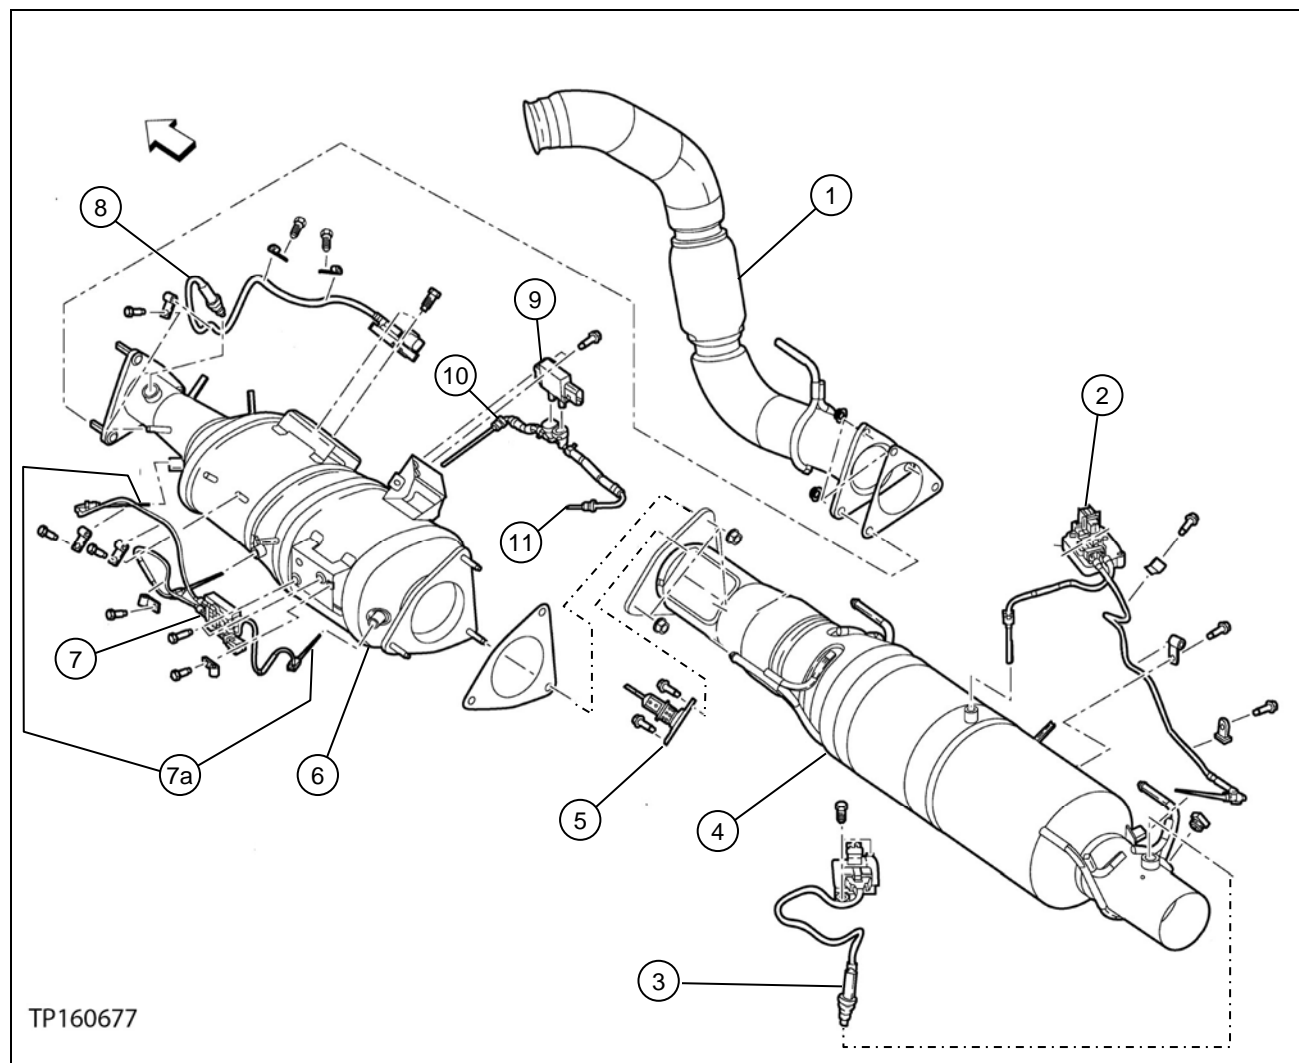

Figure 19D
1. Remove the exhaust downpipe, DOC and DPF assembly, and SCR assembly (page 62, Figure 19D, # 1, 4, and 6).
2. Inspect the DOC and DPF assembly (page 62, Figure 19D, # 6) for oil or excessive oil residue.
- DPF temperature sensor module (inspect probes) (page 62, Figure 19D, # 7 and 7a)
- DPF differential pressure sensor (page 62, Figure 19D, # 9)
- DPF differential pressure sensor tubes (page 62, Figure 19D, # 10 & 11)
4. Inspect the SCR catalyst assembly (page 62, Figure 19D, # 4) for oil and/or oil residue.
- SCR temperature sensor module (page 62, Figure 19D, # 2)
- Outlet NOx sensor (page 62, Figure 19D, # 3)
NOTE: The DEF dosing valve (page 62, Figure 19D, # 5) will be reused and does not need inspection.
6. Clean out excessive oil residue and debris from inside the downpipe (page 62, Figure 19D, # 1).